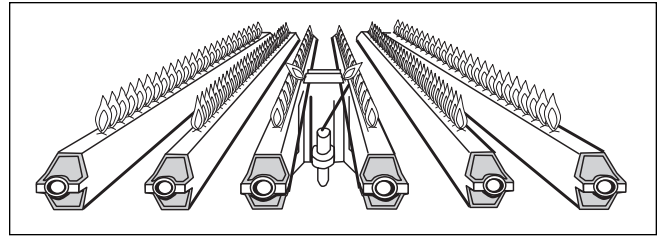

Figure 16 - Main Burner Flame Pattern
2. At start-up and every six (6) months thereafter, the pilot and main burner flame should be observed for proper performance (see Figure 16). See attached lighting and shut-down instructions for proper pilot flame pattern. If flame has the appearance of "sooting" tips, check for debris near orifices and call the Laars Service Department.